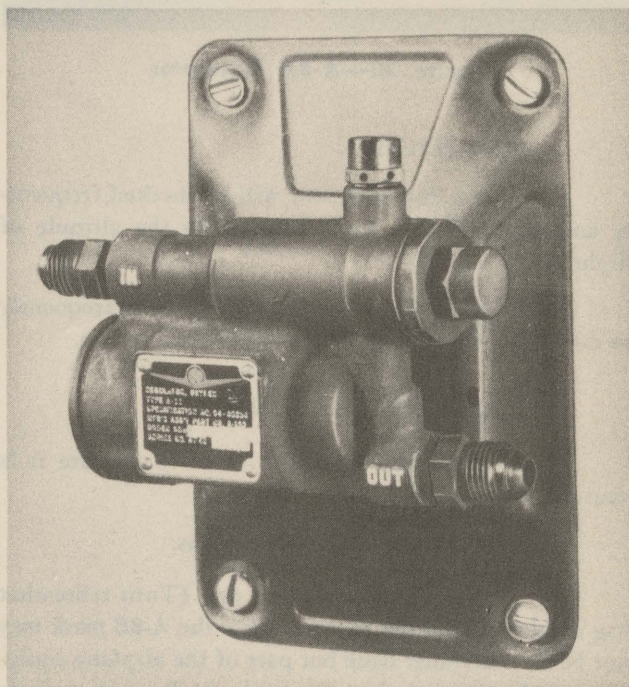

Figure 19—A-11 Regulator
3. The type A-11 regulator (see figure 19) automatically varies the flow of oxygen as the altitude increases. One regulator supplies oxygen to a maximum of fifteen outlets. It will be installed in cargo aircraft for use in transporting troops, as shown in Specification 40363.